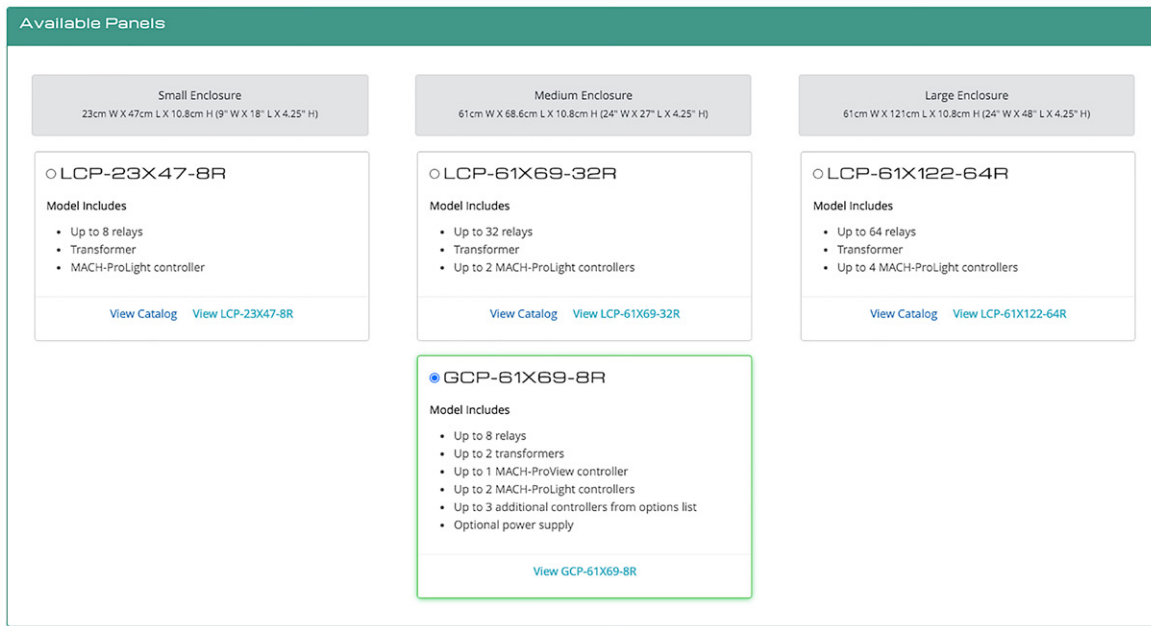

Figure 2: Create custom panels with the RC-Panel Configuration tool.
- Updated RC-Panel Configuration tool (Figure 2): With the release of the General Control Panel, we updated our panel configuration tool to help you create custom panel orders.